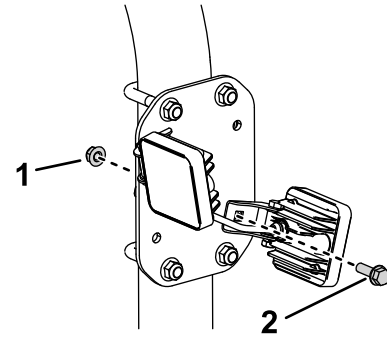

Figure 9
1. Remove the rear nuts and bolts from the work light bracket as shown in Figure 9.